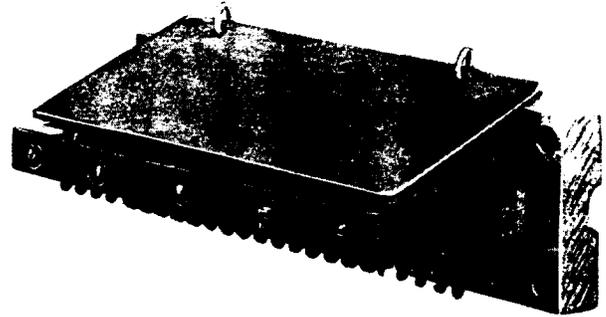

Figure 70—37-Type Shield
8.04 The 37-type shield (Figure 70) is a rectangular plastic-insulating sheet equipped with wire hinges designed to clip in holes molded in designated terminal strips. Shields may be used on other terminal strips that are physically similar to the codes listed (see Table AA).